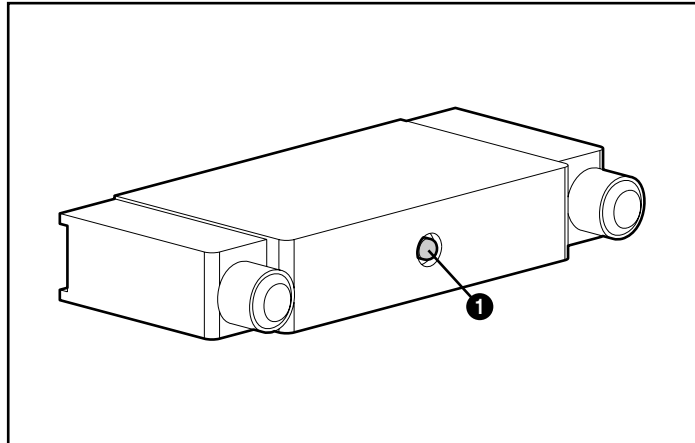

Figure 2-7. Terminator
**NOTE:** The Compaq-provided LVD/SE terminator will be lit solid red in the single-ended mode. The color red does not indicate an error. (See Figure 2-7.)